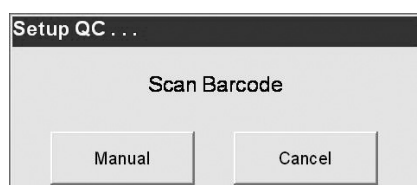

Fig. 4-10 Scan Bar Code
3. Scan the 36-digit bar code marked **Scan A** for the applicable level supplied with OPTI CHECK (Fig. 4-10).